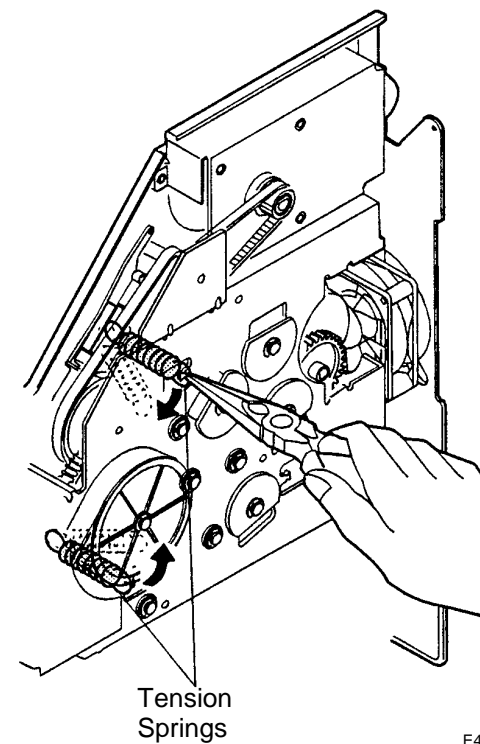

Figure 2. Removing the Springs
3. (Figure 2): Loosen the Tension springs.